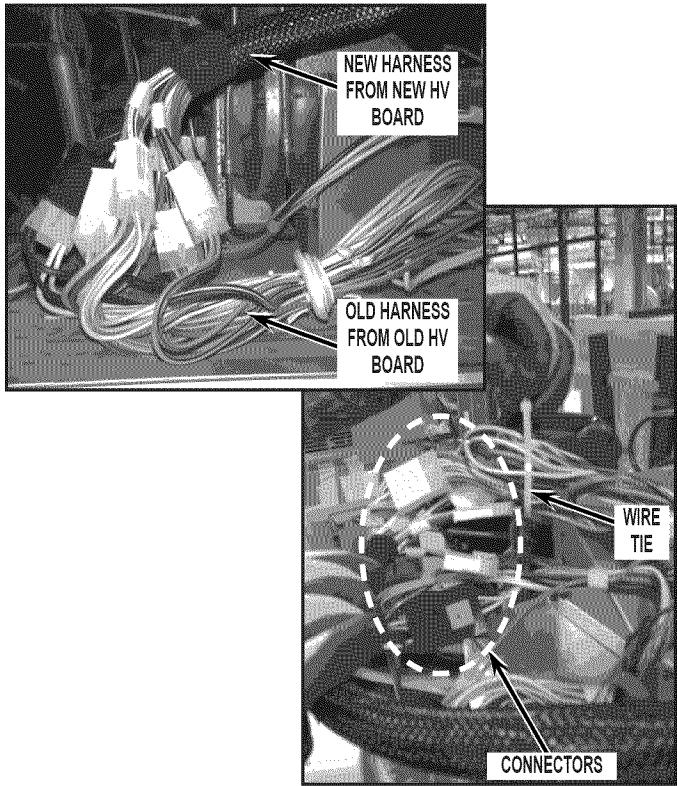

FIGURE 13
15. Connect all wiring connectors removed from the old HV board in step 9, to the new HV assembly harness. Secure with wire tie provided. Cut off excess wire tie. See *Figure 13*.